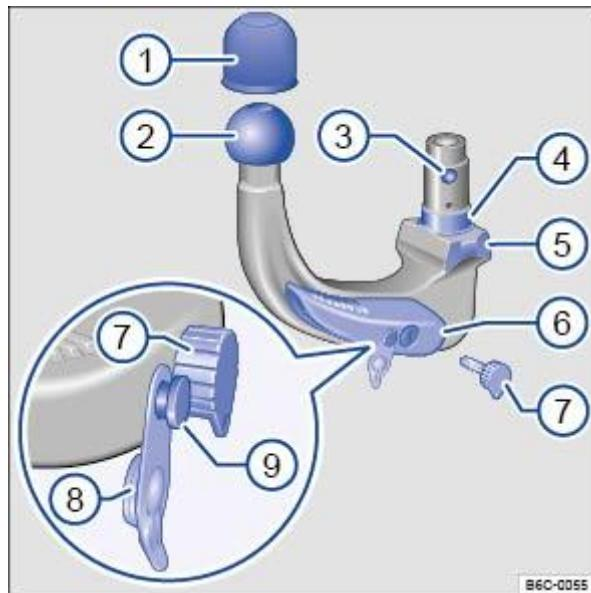

Fig. 155 Overview: removable ball head.
Key to ⇒ Fig. 155
Check to ensure that the mounting, locking lever ⇒ Fig. 155 ⑥, shank ④ and the retaining balls ③ of the ball head are all clean and not damaged ⇒ ①. Clean if necessary.
The lock cover ⇒ Fig. 155 ⑧ is open and the key ⑦ is inserted
Push the ball head firmly upwards until it engages. The centring devices ⇒ Fig. 155 ⑤ must engage in the mounting points on the vehicle.
The locking lever ⇒ Fig. 155 ⑥ is in the uppermost position.
- ¶ If the smallest diameter of the ball ⇒ Fig. 155 ③ is less than 49 mm, do not use the towing bracket.
- ② Remove the lock cover ⇒ Fig. 155 ⑧ from the lock in the locking lever and insert the key ⑦ into the lock.
- ② Turn the key ⑦ anti-clockwise until the part of the key with the hole is at the top.
- ② Hold the neck of the ball head under the ball head ② with your hand.
- ② Press the release pin ⑨ and at the same time press the locking lever ⑥ down as far as it will go ⇒ **⚠**. The ball head is pre-tensioned.
- ② Guide the removable ball head down and out of the mounting.
- ② Let go of the release lever ⑥ and stow the pre-tensioned ball head safely with the vehicle toolkit.
- ② Pivot the trailer socket back fully from the bottom right to the top left to prevent soiling and damage to the mounting.
- ② Insert the cap into the ball head mounting.